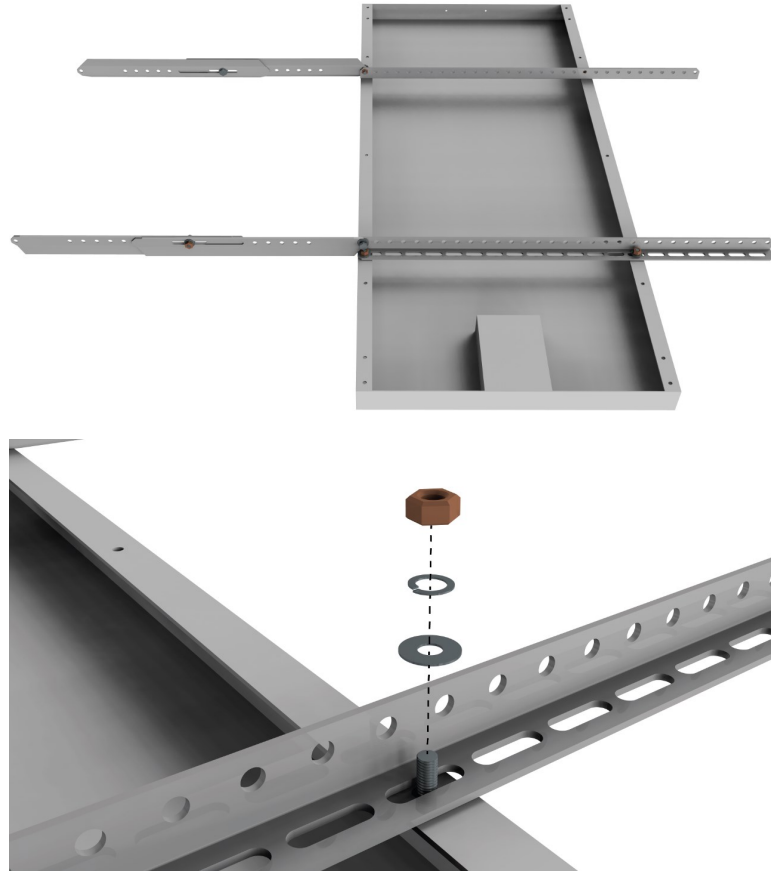
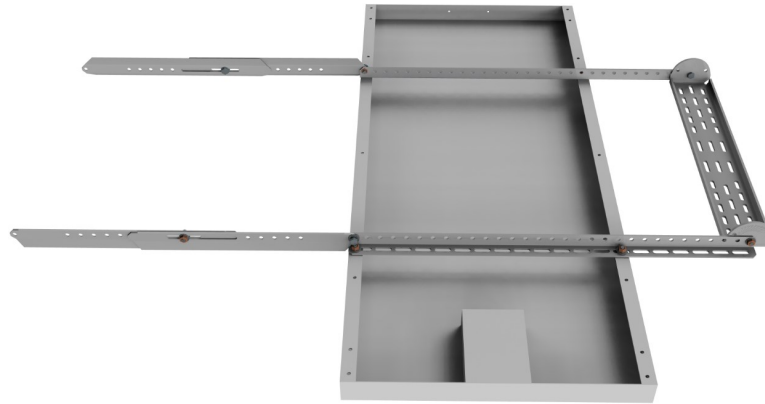

FIGURE 3-2. Attaching mounting arms
FIGURE 3-3. Attaching the upper mount bracket
3. Determine which edge of the solar panel will be the bottom edge. Place one of the arms so the end with the attached struts is at the bottom (FIGURE 3-2 (p. 6)). Attach each arm with two bolts, washers, lock washers, and nuts. Do not fully tighten the nuts. Repeat for the second arm.
4. Locate the upper mount bracket with the angle decal on one end. Remove the nut, lock washer, and washer from each end of the bracket and orient the bracket as shown in FIGURE 3-3 (p. 7). Pass the bolts through the bracket and the last hole on each extended mount arm, and then replace the washer, lock washer, and nut on each bolt (see FIGURE 3-2 (p. 6)).